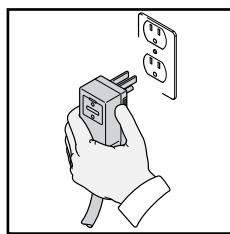

Fig. 16
- Unwind the power cord completely and plug the GFCI into a grounded 120 volt outlet. Press the ‘reset’ button on the GFCI box (Fig. 16). The indicator window should show a red color. This must be done each time the unit is plugged in.